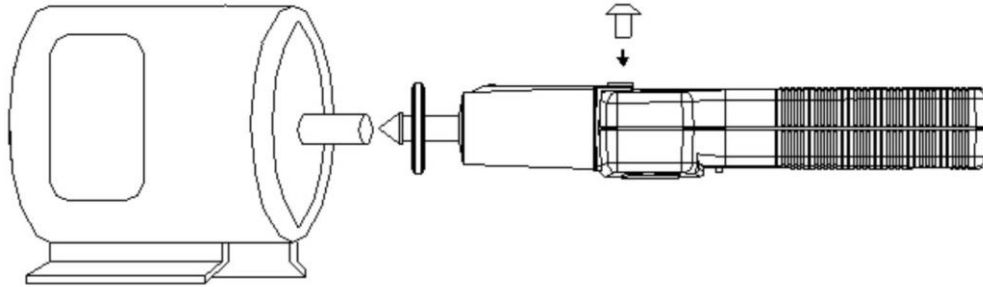

Fig. 3: attach of mechanical adaptor
2. Attach the mechanical adaptor to the unit **and fasten the screw** (see Fig. 3):